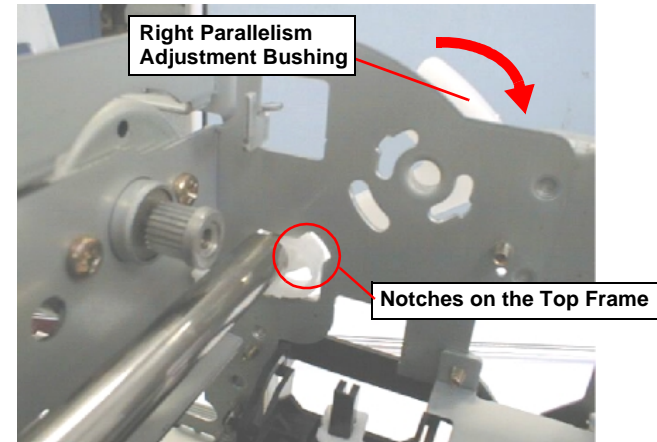

Figure 4-40. Removing the Right Parallelism Adjustment Bushing
- 10) Remove one screw (No.7) and rotate the Right Parallelism Adjustment Bushing and move it forward so that the locking protrusion of the Right Parallelism Adjustment Bushing fits in the notches on the right side of the Top Frame. Refer to Figure 4-40.